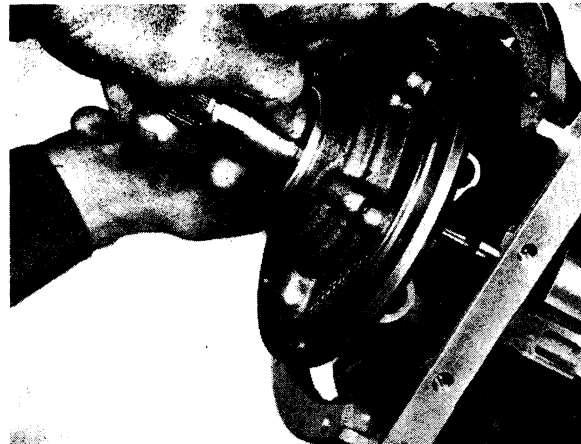

Fig. 4-79. Removing front pump
22. Unscrew the six bolts which retain the front pump to the body. Withdraw the pump and remove the gasket. Push the shaft inwards when withdrawing the pump, see Fig. 4-79.